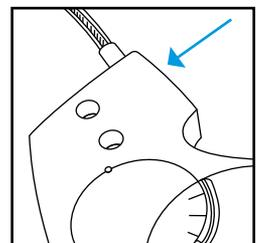

Figure 4
7. Loosen the cone point safety screw on the side of the joint two turns (see Fig. 4). Do not remove the screw from the joint.
17. Tighten the cone point Safety screw back in the joint (see Fig. 4).